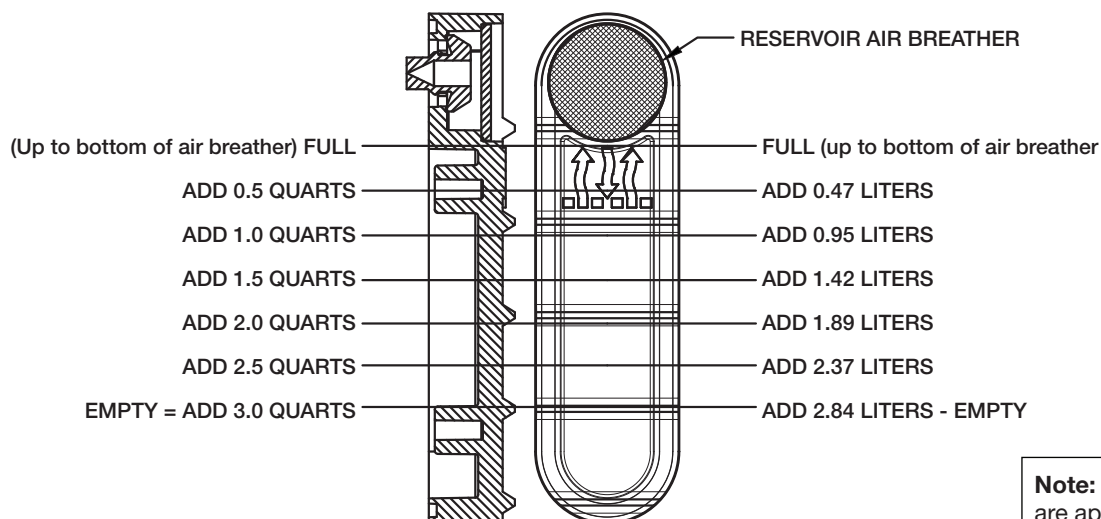

Figure 10, Reservoir Oil Fill Guide
5. With the pump in the normal (horizontal) operating position, check the oil level in the oil level indicator. Use the diagram in Figure 10 to determine the approximate amount of additional oil that must be added.